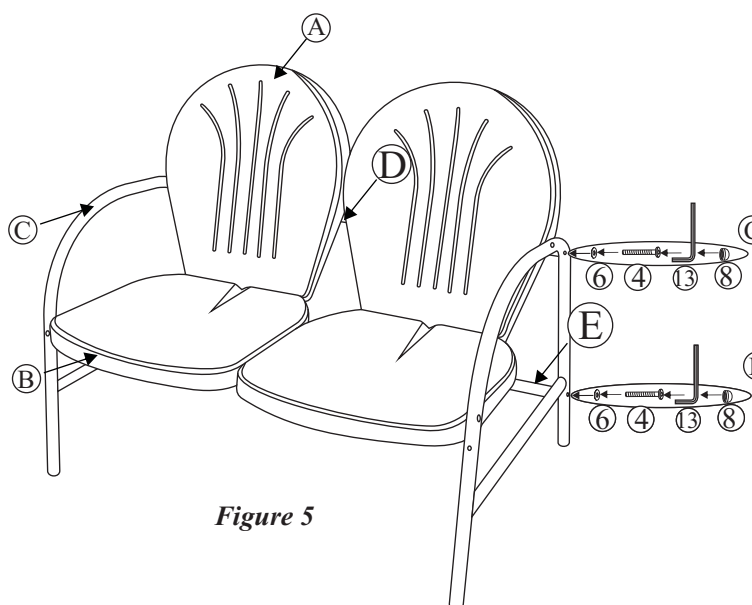

Figure 5
Step 5: Attach Upper Back Crossbar(D) and Lower Back Crossbar (E) to Arm rest (c) using 1/4"x40mm bolts (4), two Ø 6.5 x 1.0 washers (6) as (Figure 5). Tighten with Allen Key (13). Do not over tighten. Repeat for remaining Loveseat arm. Cover nuts and bolts with covers (8 & 9).